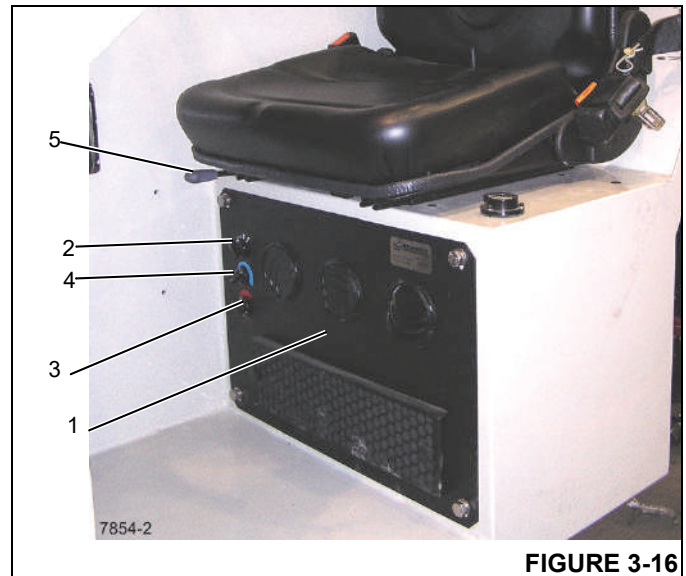

FIGURE 3-16
The cab heater/air conditioner (furnished as an option with enclosed cabs) is located under the operator's seat (1, Figure 3-16).
To operate the heater, use the fan switch (2, Figure 3-16) in conjunction with the heater control (3) to select the desired fan speed and amount of heat.
To operate the air conditioner, use the fan switch (2, Figure 3-16) in conjunction with the air conditioner control (4) to select the desired fan speed and amount of air conditioning.
Seat Fore & Aft Adjustment - To adjust the seat, move the control lever (5, Figure 3-16) to the right. Move the seat to proper position and then move the control lever back to the left to lock the seat position.